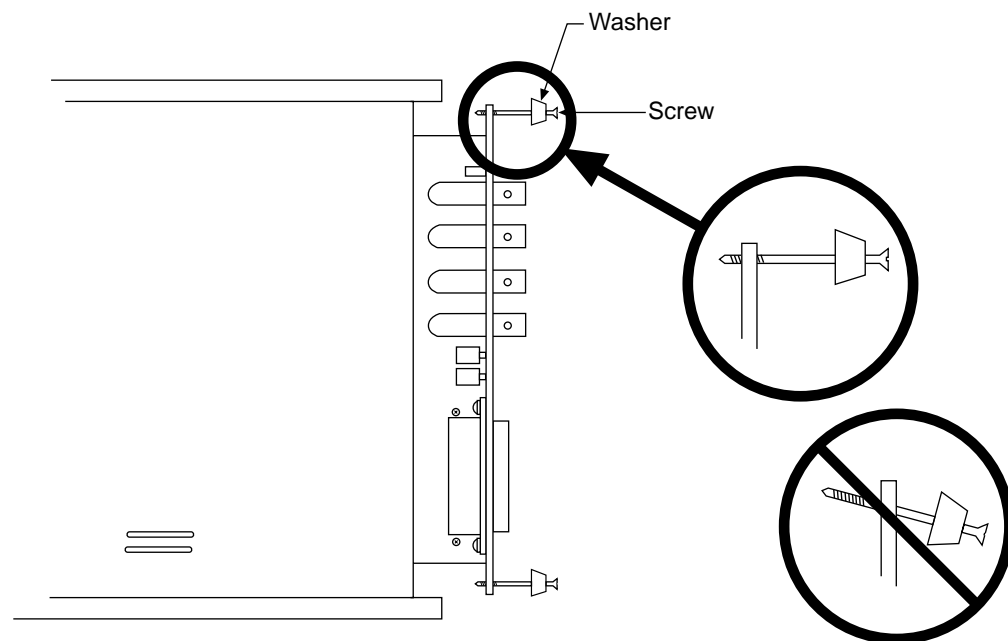

Figure 51. Module Installation
1. Rotate the two locking screws counterclockwise until the threads on the screws engage those of the module panel. *See Figure 51.* By doing this, the screws will be perfectly perpendicular to the module panel and will align perfectly when the module is inserted.